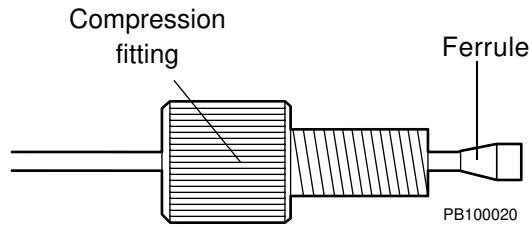

Figure 3-5 *Connecting Low-Pressure Plastic Fittings to Tubing*
- Low-pressure plastic fittings (Figure 3-5)
2. Slip a plastic ferrule over the end of the tubing with the tapered end toward the compression fitting. Use a yellow ferrule with 1/8-inch tubing. Use a blue ferrule with 1/16-inch tubing. Make sure tubing is flush with the ferrule (Figure 3-5).